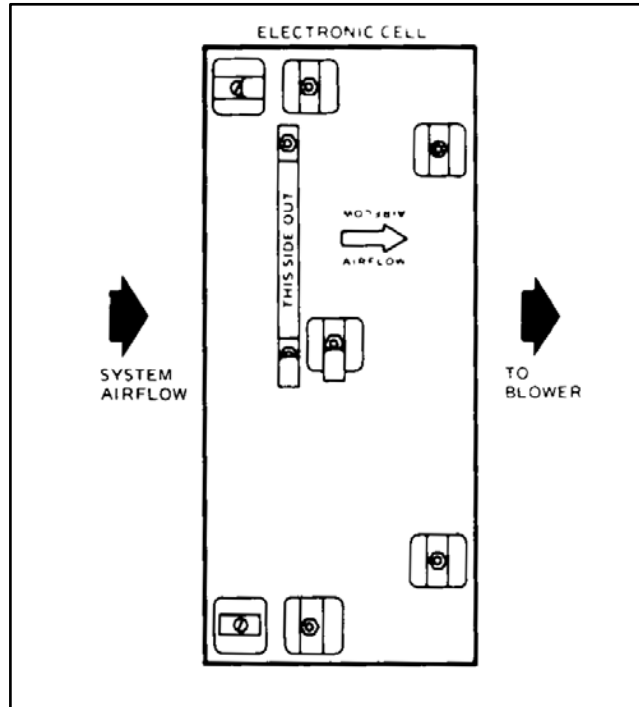

FIGURE 5 – CORRECT CELL POSITION IN THE F72
2. Insert the electronic cell(s) into the cabinet with the cell handle facing the door opening. Make certain the arrow stamped on the cell(s) points downstream (Fig. 5).